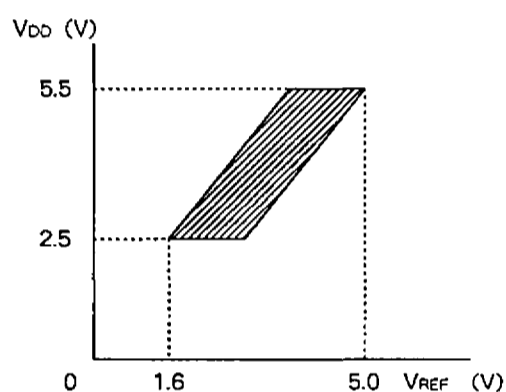

Fig. 5 Power supply voltage detection reset function chart
The graph in Fig. 5 shows the relationship between the power supply voltage VDD and reference voltage VREF of the power supply voltage detection reset function.
- Note** 1) The graph in Fig. 5 serves as guide to the function operation area obtained using average devices.